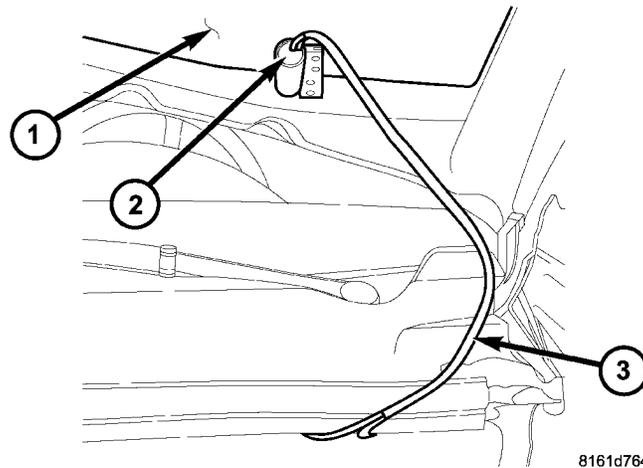

Fig. 1 HOOD SWITCH LOCATION - TYPICAL
5. Remove the remote start hood switch.(Fig. 1).